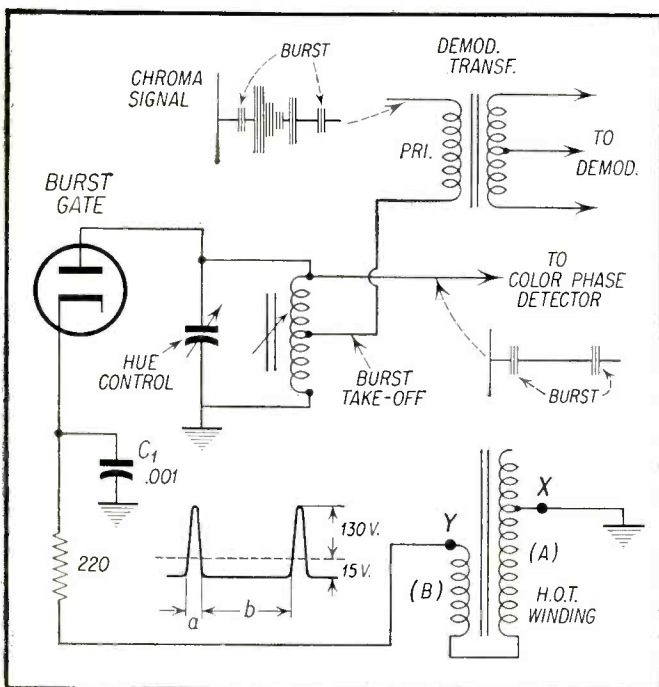

Fig. 6—Simplified schematic of burst gate circuit employed in Emerson R-Y/B-Y receiver.
A fourth circuit, employing a diode burst gate tube is shown in Fig. 6. Here the chroma signal is fed into the Burst Takeoff coil via the primary return of the Demodulator Transformer. This being an R-Y/B-Y receiver no phase shift is given the color burst signal. However, phase shift of the signal which takes place in the components of the previous chroma circuits must be corrected for. This is done by means of the Hue Control which in conjunction with the Burst Takeoff coil forms a 3.58 mc parallel resonant circuit.
circuit shown in Fig. 6 we must first understand how the flyback pulse is developed and fed back to the cathode of the burst gate diode via the 220 ohm resistor. Notice that this flyback pulse is the sum of the voltages across two oppositely phased windings (A) and (B) on the horizontal output transformer. Winding (A) develops a 260 volt peak to peak pulse, and winding (B) develops a 115 volt peak to peak pulse 180° out of phase with winding (A). The peak to peak voltage of the pulse takeoff point Y with respect to ground is thus  $260 - 115 = 145$  volts.
Referring again to Fig. 6 we observe that this switch is effectively connected across the Burst Takeoff coil via C1. During retrace, the switch is open and the chroma signal is developed across the Burst Takeoff coil from whence the burst signal continues on to the Phase Detector. During sweep, however, the switch is closed and the chroma signal is shorted to ground.